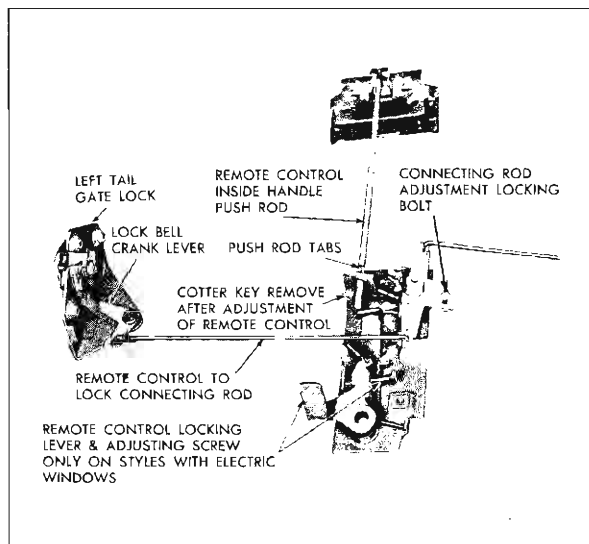

Fig. 5-17 Tail Gate Lock
3. Disengage spring clip and detach lock remote control connecting rod from lock remote control (Fig. 5-17).
To attach lock connecting rod to remote control lever, first, loosen connecting rod adjustment locking bolt at remote control (Fig. 5-17); then, install rod to lever and tighten locking bolt.
**NOTE:** To engage end of handle push rod into hole in remote control lever, it may be necessary to raise window in tail gate to gain access to lever. Adjust remote control upward until tabs on handle push rod (Fig. 5-17) just contact remote control lever.
2. Disengage clips securing lock connecting rods to remote control (Fig. 5-17) and detach connecting rods from remote control.
2. Adjust remote control assembly up or down until tabs on push rod (Fig. 5-17) just contact remote control lever.
3. To attach lock connecting rods to remote control lever, first, loosen connecting rod adjustment locking bolt (Fig. 5-17); then, install rods to levers and tighten locking bolt.
**IMPORTANT:** *If installing new remote control assembly, remove cotter key (Fig. 5-17) after adjustment to free locking lever.*
6. Lower window to approximately  $\frac{1}{2}$  inch up from "full down" position; then adjust remote control locking lever adjusting screw (Fig. 5-17) so that lever is just contacting window lower sash channel frame. Check operation of remote control inside handle. Handle should remain locked until window is lowered to within  $\frac{1}{4}$  inch of the "full-down" position.